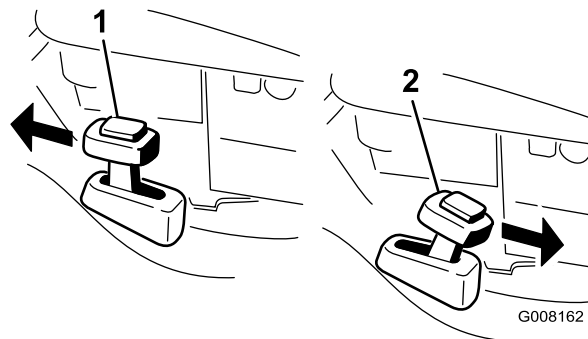

Figure 19
2. Press the button on top of the Recycling/bagging lever and move the lever to the **recycling** mode (Figure 19).
2. To bag the grass clippings, install the grass bag (refer to Installing the Grass Bag). Press the button on top of the Recycling/bagging lever and move the lever to the **bagging** mode (Figure 19).
Note: The Recycling/bagging lever should be in the bagging mode (Figure 19).